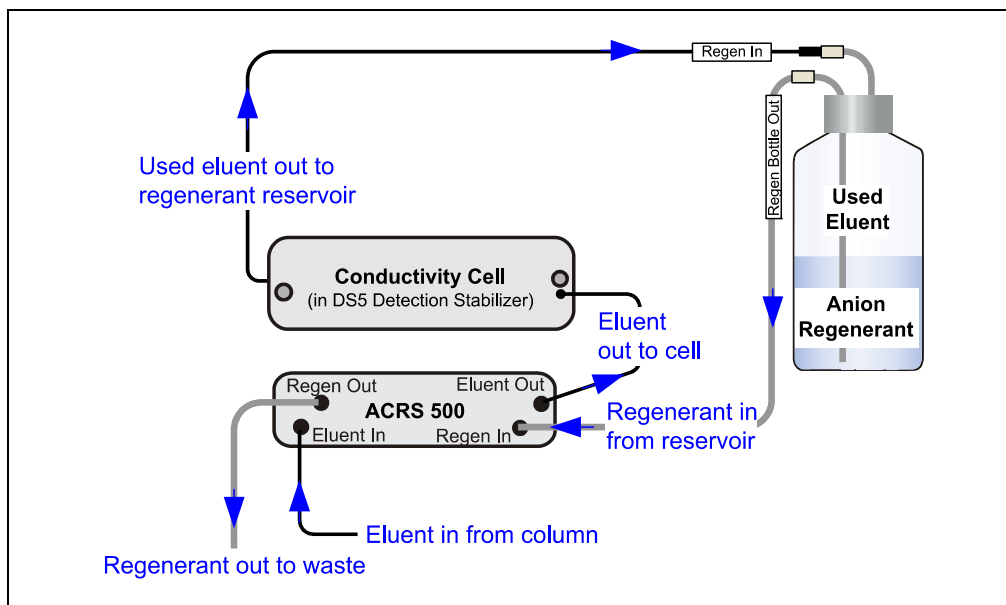

Figure 2-7. Anion Displacement Chemical Regeneration (DCR)
- In the anion DCR process (see Figure 2-7), the eluent is less dense than the regenerant and it remains on the top of the bottle, forcing the regenerant into the regenerant line at the bottom of the bottle and out into the suppressor.